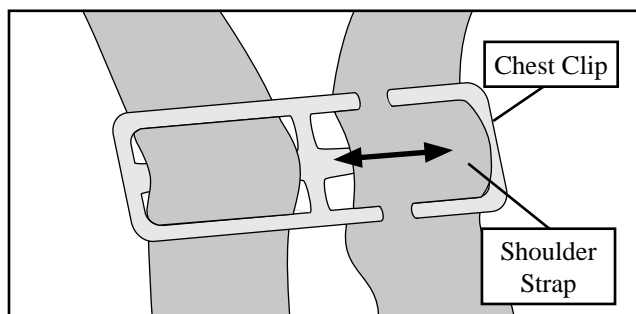
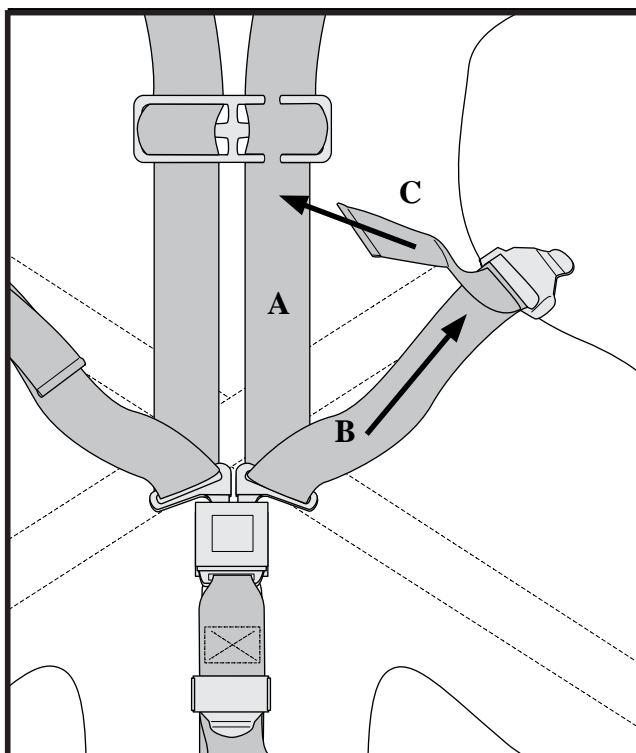

Figure 5 - Fastening a Shoulder Strap
Figure 6 - Fastening a Shoulder Strap
7. Thread the shoulder strap on the patient's left side through the chest clip (Figure 5) and slide the chest clip to armpit level. To snug the shoulder/torso straps, refer to Figure 6 and use the following procedure:
- Snug the shoulder strap (A) against the shoulder and chest by pulling section B of the strap with one hand while steadying the central buckle with the other hand.
- Snug the torso strap (B) by pulling on section C with one hand while steadying the central buckle with the other hand.